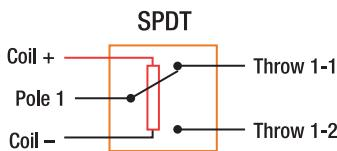

Figure 2-3. This SPDT relay has one pole, with two contacts (a three-way switch).
- Single Pole, Double Throw (SPDT): This type of relay uses one coil to operate one switch with three contacts (see Figure 2-3). The middle contact is for the load, the upper contact is for Voltage1, and the lower contact is for Voltage2 (or GND). This relay has five total contacts and is useful for switching one contact (Pole 1) between two different sources (Throw 1-1 and 1-2)—also called a three-way switch.